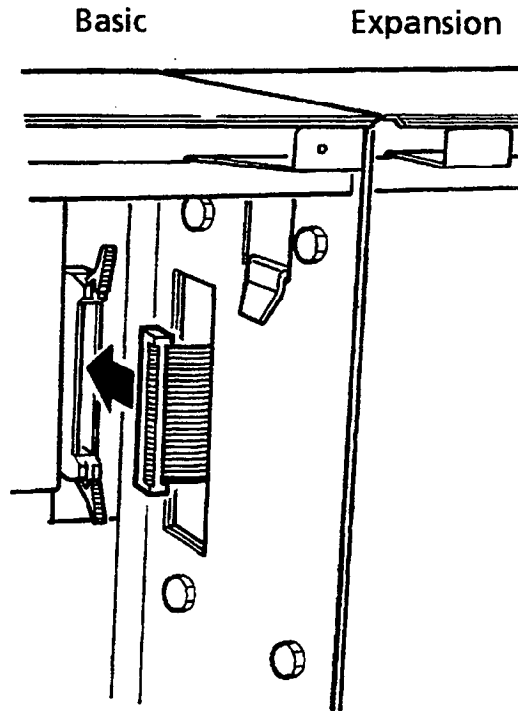

Figure 3-23 Connecting the Cable Between the Level II Basic and Expansion KSUs
4. Attach the ribbon cable, mounted on the Expansion KSU, through the opening between the Basic and Expansion KSUs. Refer to Figure 3-23 - Connecting the Cable Between the Level II Basic and Expansion KSUs.